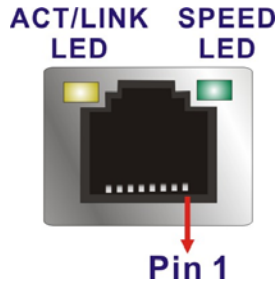

Figure 3-30: LAN Connector
- CN Pinouts:** See **Figure 3-30** and **Table 3-28**